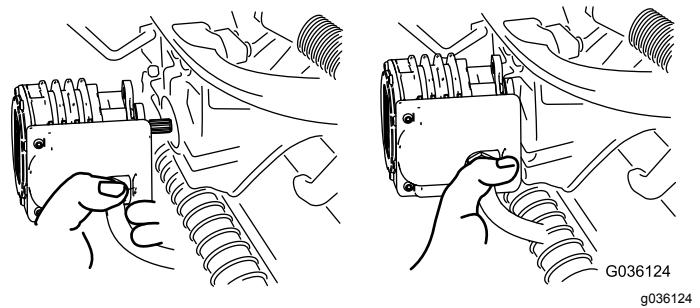

Figure 49
4. Move the motor to the storage location on the front of the suspension arm (Figure 49).